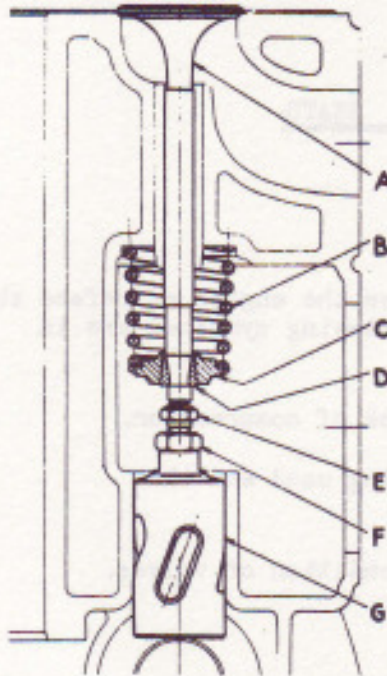
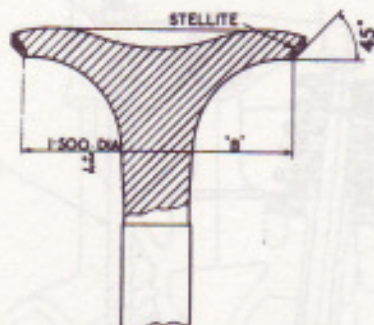

FIG. 12. ARRANGEMENT OF EXHAUST VALVE WITH CAST IRON GUIDE.
FIG.17. SECTION THROUGH HEAD OF EXHAUST VALVE.
Unscrew sleeve nut of compressing tool sufficiently to allow the fork to be placed under bottom washer (C, Fig. 12) of the valve to be removed.
The exhaust valves have stellite seats, see Fig.17.
When retrimming the seating of the exhaust valve, grind off the material to the correct angle (i.e. 45° as shown in Fig.17) and sufficiently to remove pitting and then remove metal from the underside of the valve as in the case of the inlet valve, in order to maintain dimension 'B' as shown in Fig.17. However, prior to carrying this out, the locking nut (F, Fig.12) of each exhaust valve tappet should be released and the adjusting screw (E), screwed down several turns. To carry out this operation, slip the special exhaust tappet holding spanner (RF.3838 Fig.18) on to the flats provided at the top of the exhaust tappet, and placing the other end of the spanner on to the inlet tappet. Then, with the aid of the two $\frac{1}{2}$ " and $\frac{5}{16}$ " B.S.F. single ended spanners (RF.3834 and RF.4372), the locking nut can be released and the adjusting screw screwed down.